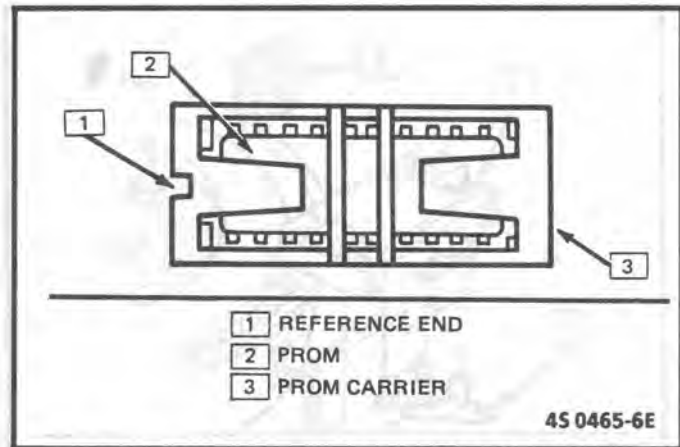

Figure C1-10 - PROM in PROM Carrier
2. For correct reference of PROM in carrier, see Figure C1-10.